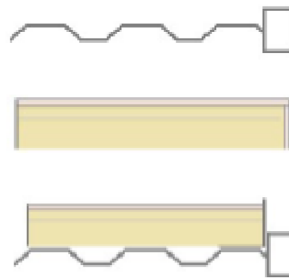
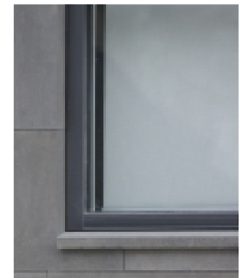

Fig. 5
Fig. 6
- Alternatively, if you use reveal pieces with one edge faced, you can place them against the window frame, as shown in Fig 5. However, you would still require an 'L' section as a lintel at the top of the window or door. Fig 6 demonstrates the sill finish.